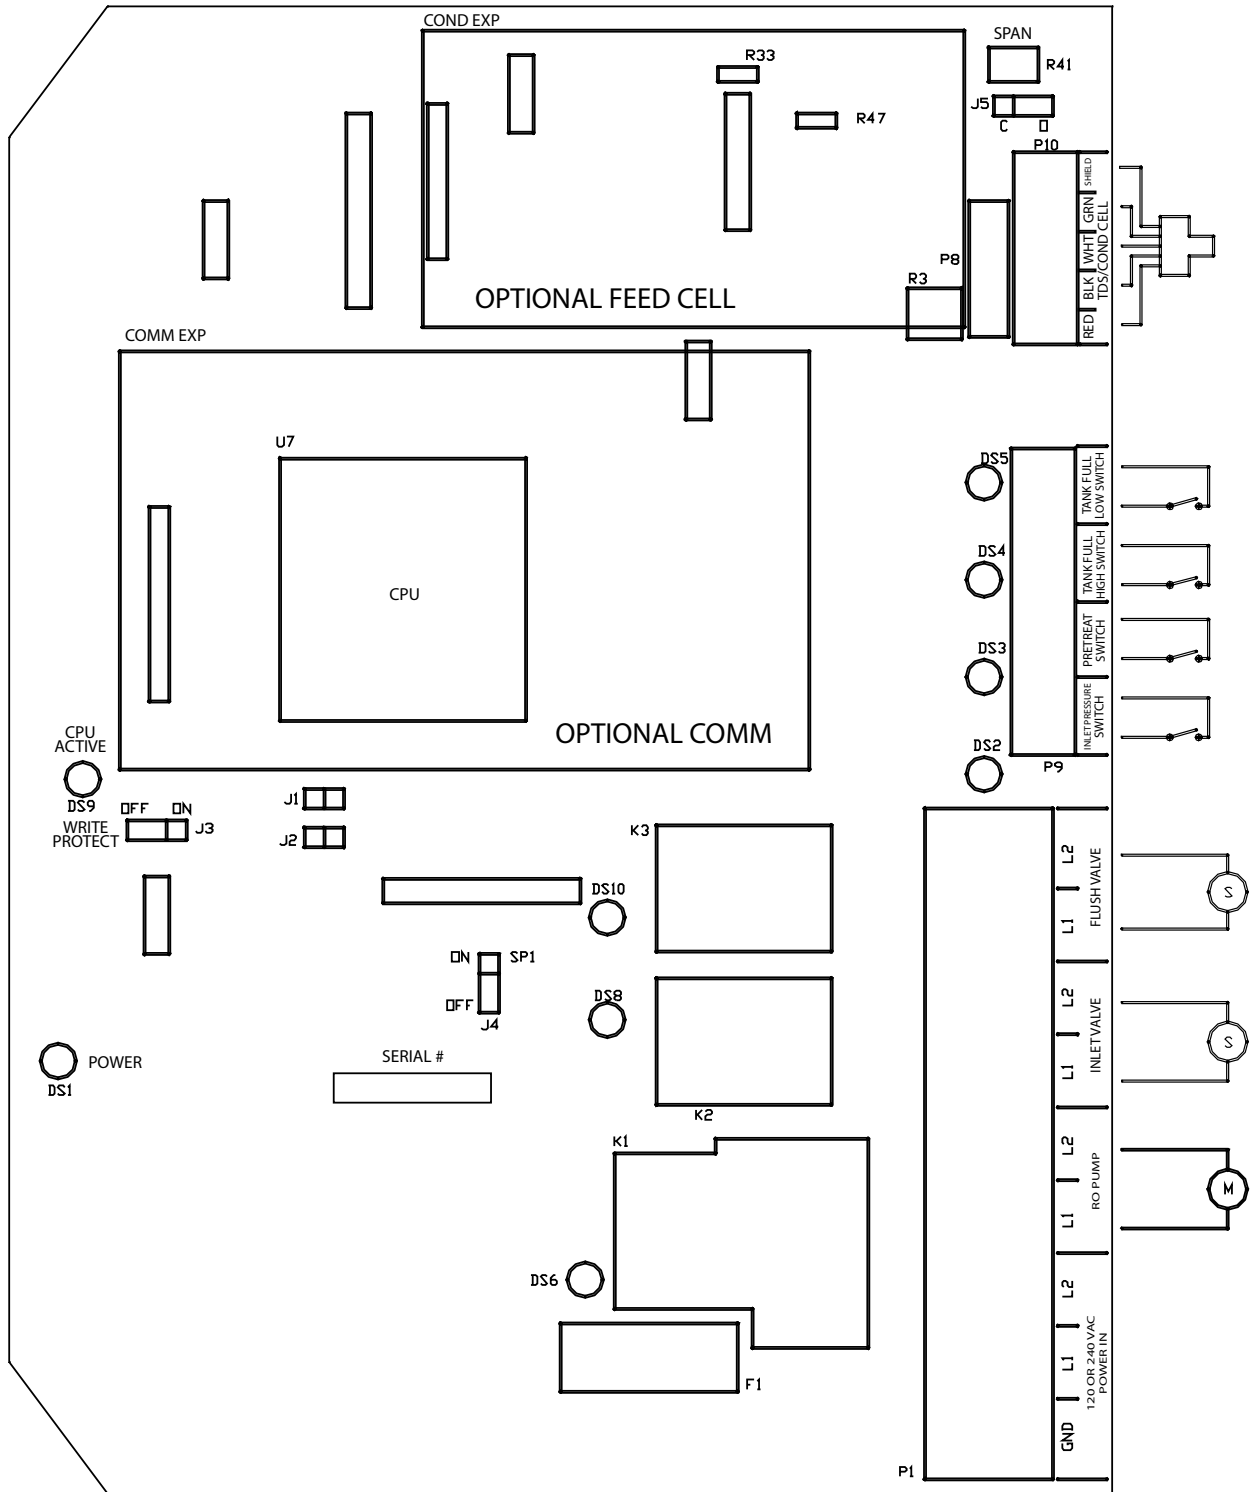

Figure 2
1. Refer to Figure 1 for the location of the keys used to display or change the Setpoints and Figure 2 for the location of the write protect jumper, J3. For the unit to be able to accept a change in a Setpoint, the shorting jumper must be in the off position (center and left pins).